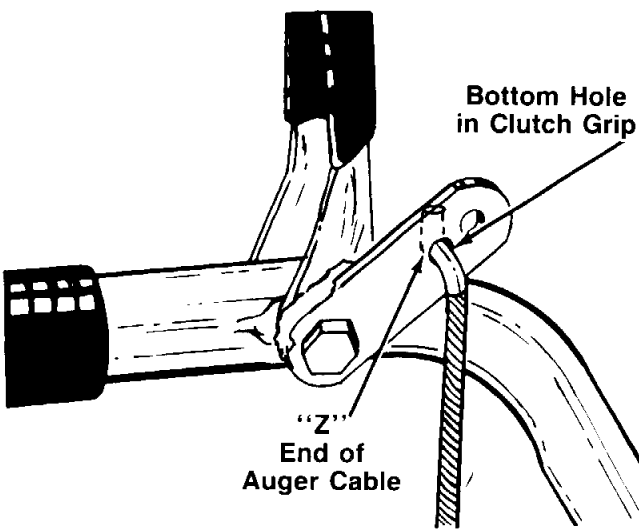

FIGURE 16.
22. The auger clutch grip assembly is located on the left handle. With the clutch grip assembly in the disengaged (raised) position, hook the "Z" end of the auger cable into the bottom hole in auger clutch grip assembly as shown in figure 16. The "Z" end hooks toward the outside of the unit.